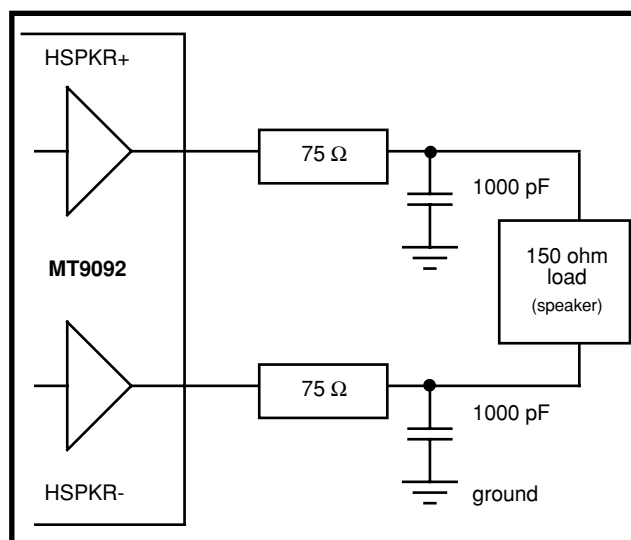

Figure 5- Handset Speaker Driver
- ◆ The handset speaker outputs (receiver), pins HSPKR+/HSPKR-. This internally compensated, fully differential output driver is capable of driving the load shown in Figure 5. This output is enabled/disabled by the HSPKR EN bit residing in the Transducer Control Register (address 0Eh). The nominal handset receive path gain may be adjusted to either -12.3dB (suggested for μ -Law) or -9.7dB (suggested for A-Law). Control of this gain is provided by the RxA/ \bar{u} control bit (General Control Register, address 0Fh). This gain adjustment is in addition to the programmable gain provided by the receive filter and DSP.